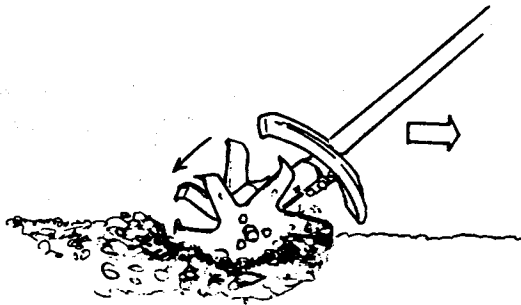

Figure 10
2. For deep cultivation of soil, apply pulling motion to the machine and blades will automatically go deep into soil. (Figure 10)